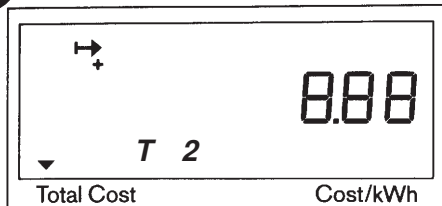

Fig. 3.3
| Fig. 3.3 | Costi totali T2 (Total Cost) | Fig. 13.3 | Tensione istantanea L3 (V) |